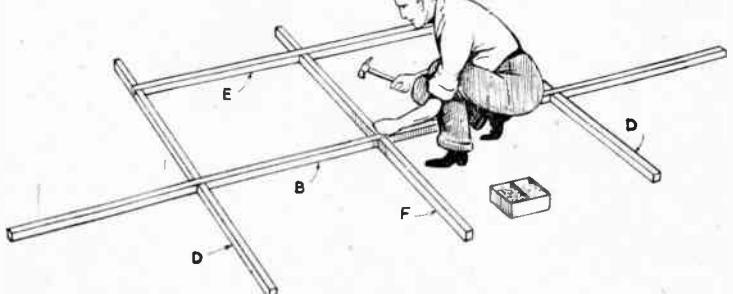

Fig. 8—The sub-assembly of the side section fixing
Prepare both side sections for assembling, then continue as follows. First nail the two 5 ft. 8 ins. (C) to the two 14 ft. pieces to form a rectangular frame. Check this for being square against a sheet of asbestos. Now assemble the two pieces (D) and the piece (F) to the piece (E) and secure each half joint with one  $2\frac{1}{2}$  in. nail, see Fig. 8. Place the 13 ft. 8 in. piece (B) in position and secure in a similar manner. Take up this sub-assembly and place it in the rectangular frame.